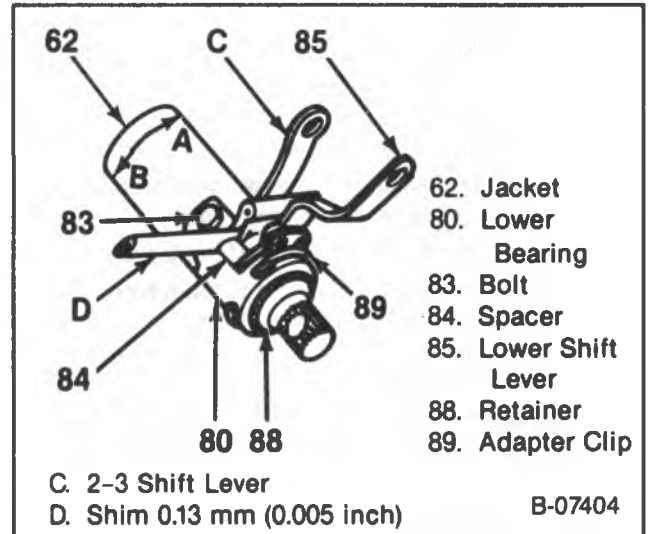

Figure 28 — Lower Bearing Adjustment
Adjust (Figure 28)
- Increase clearance by sliding the clamping screws in the direction of arrow "B" until the first reverse lever is free of drag (figure 28).
- Decrease clearance by sliding the clamping screws in the direction of arrow "A" until a slight drag is felt at the first reverse shift lever (figure 28).